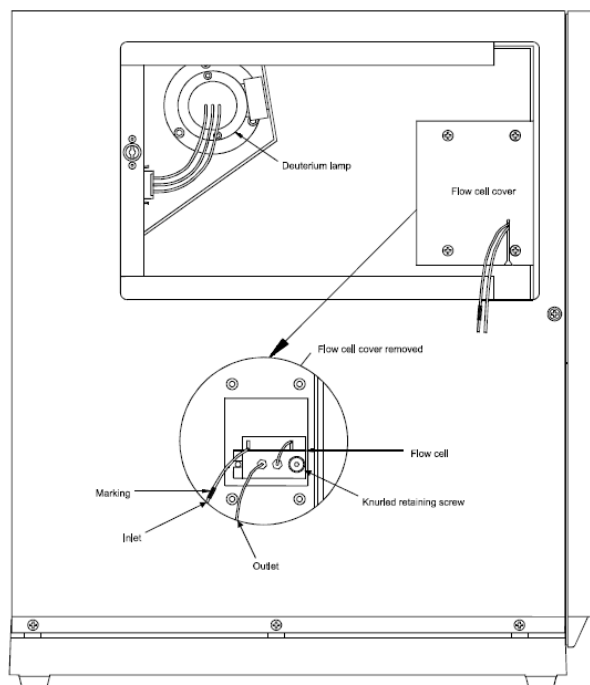

Figure 9. Side view of the detector showing an open side panel.
- 8.8.1.3. From the detector's left-side panel, remove the removable cover. To open, press in and turn the knurled screw 90° counterclockwise. Open and remove the panel (See resulting Figure 9). Do not bend the Teflon capillary.
8.9.1.3. From the detector's left-side panel, remove the removable cover. To open, press in and turn the knurled screw 90° counterclockwise. Open and remove the panel (See resulting Figure 9). Do not bend the Teflon capillary.